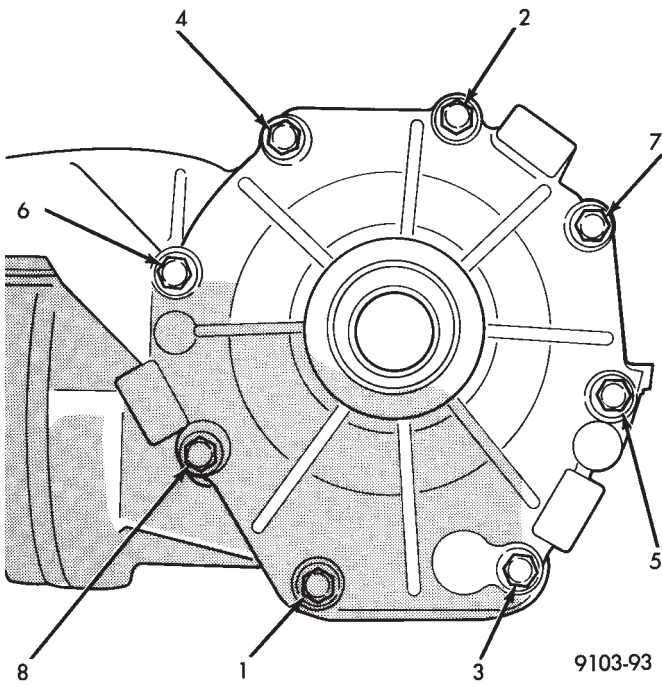

Fig. 15 Bolt Tightening Sequence.
(5) Remove differential end cover.
(6) Remove differential assembly from rear driveline case.
(7) Remove ring gear bolts and separate differential case from differential body.
(8) Using a punch and hammer remove the differential pinion shaft pin.
(9) Slide differential pinion shaft out of differential case.
(10) Inspect and replace pinion gears, pinion shaft or pinion washers as required.
(11) Reverse steps 7 through 10 to assemble differential. Torque the ring gear bolts to 95 N•m (70 ft. lbs.).
(12) Install differential assembly into driveline module case.
(13) Clean and inspect sealer surfaces.
(14) Apply Mopar® Gasket Maker, Loctite Gasket Eliminator or equivalent and install end cover. Tighten to 28 N•m (250 in. lbs.).
(15) Tighten bolts in the sequence shown in Fig. 15. Retighten first bolt after all others are tight.
(16) Install output shafts
(17) Reconnect both half shafts.
(18) Fill differential with lubricant.